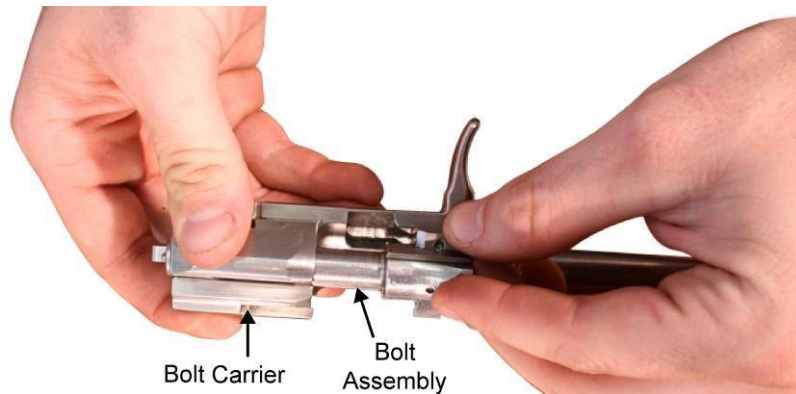

Figure 6. Engaging the Bolt Assembly with the Bolt Carrier.
3. While turning the bolt assembly, engage the bolt cam into the cam recess of the bolt carrier by pulling the bolt assembly toward the front of the bolt carrier. Refer to Figure 6.